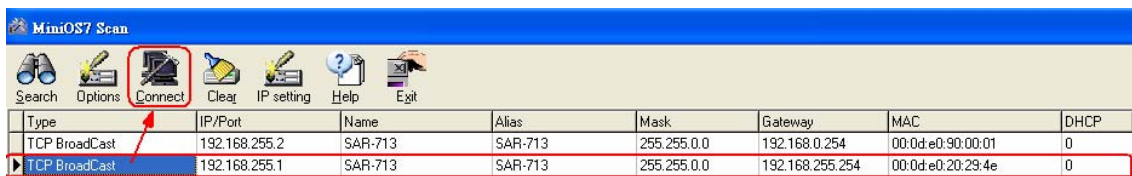
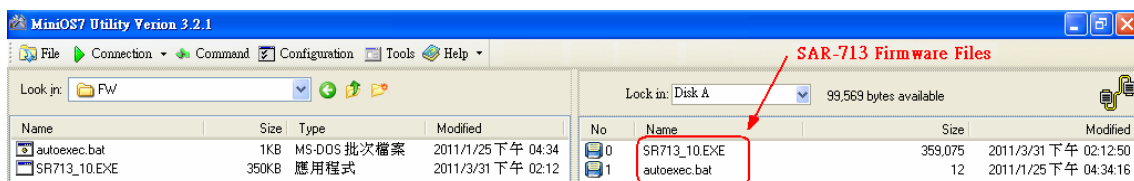

Fig 9.1-4 Open Connection Screen
Fig 9.1-5 Firmware Files
- (1) Choose the assigned SAR-713 module and click the "Connect" button like Fig 9.1-4. It will open the connection screen and show the internal firmware files in the right field like Fig 9.1-5.